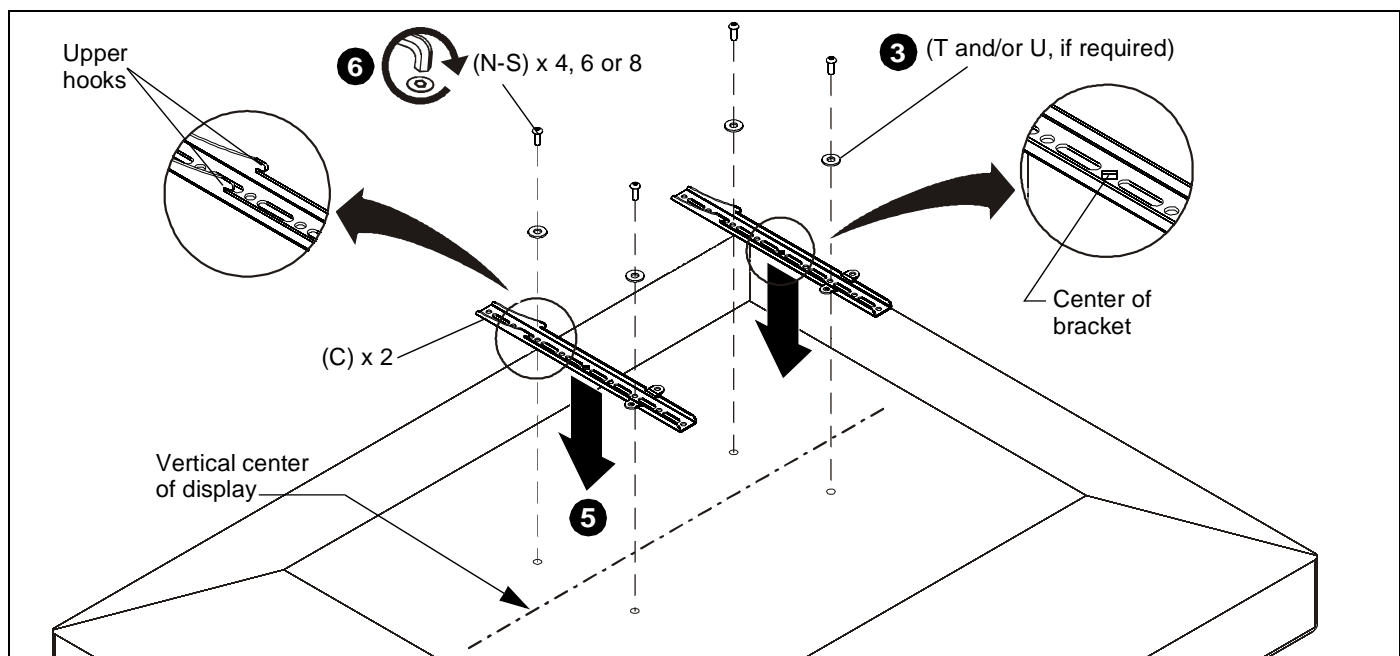

Figure 6
- Select screw *diameter* by examining hardware (N-S) (4mm, 5mm, 6mm, or 8mm) and comparing with mounting holes on display. (See Figure 6)
- Using your hand, insert M4x12mm button head security screw (N) through vertical interface bracket (C), washers (T or U), into display mounting hole. Do NOT thread screw into hole at this time.
- Proper screw length requires base of screw head to protrude above flat washer a *distance equal to or greater than the screw diameter*. If screw length is inadequate, use M4x16mm screw (P). Select *shortest* screw which will protrude the required distance.
- Place vertical interface brackets (C) on display, ensuring: (See Figure 6)
- Center of brackets (C) are as close to the center of the back of display as possible after being installed. Center of bracket is indicated by the diamond-shaped hole.
- Install selected screws through washers (T and/or U, if required) vertical interface bracket (C) and into display mounting holes. (See Figure 6)